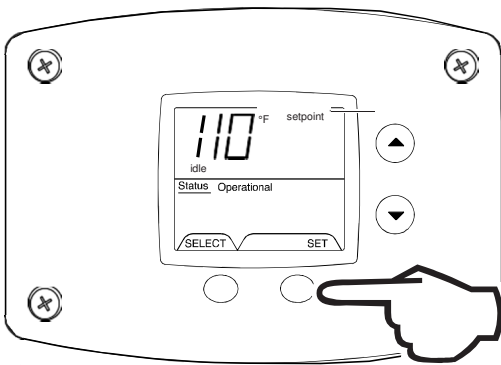

Fig. 55
5. When the desired setpoint is reached on the water heater display, press the 'Set' button to confirm the new setpoint. 'Setpoint' stops flashing in the water heater display (Fig. 55).